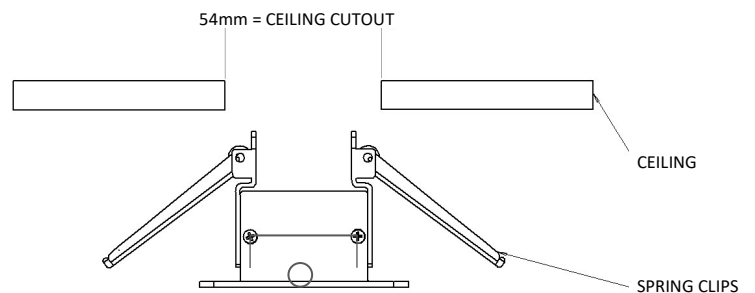

FIG. 6
- Ensure that the hole cutout is the correct size. Incorrect sizing can lead to damage or loss of the fitting (Fig. 6)